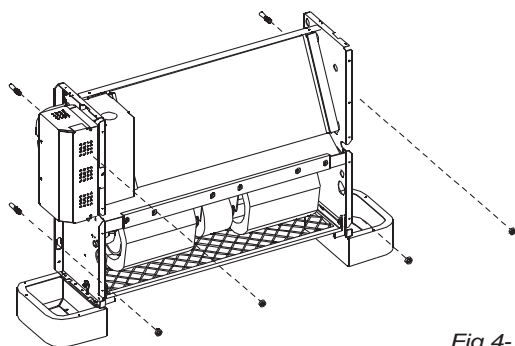

Fig.4-18
2) Secure the unit by driving the four fixing screws into suitable masonry plugs. (Refer to Fig.4-18)